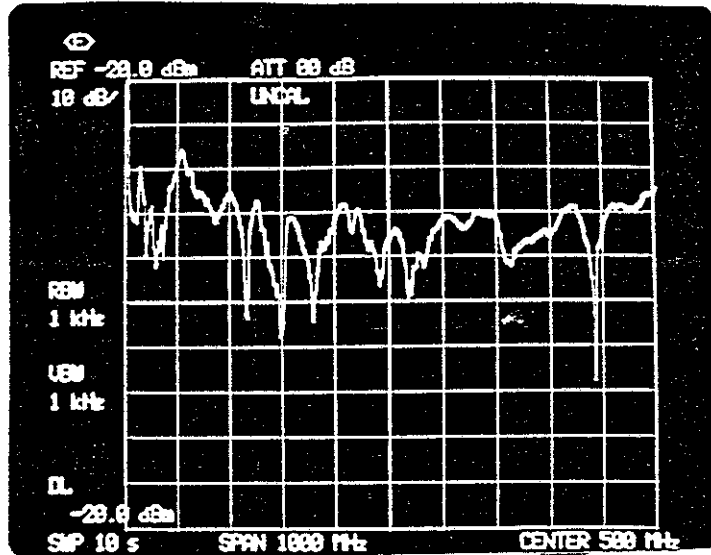

Figure 3-10 Example of electric field shielding effect
- (6) Figure 3-10 gives a measurement example where the test piece is poor grounded. In such case, follow the instructions given in Section 2.3 and ground the test piece securely.
- (7) Use the grounding adapter (antenna connector adapter) for poor grounding. Face the springs each other, and insert two adapters between the antenna and the evaluator. The springs will contact to the test piece, and the shield line will contact to the antenna connector.